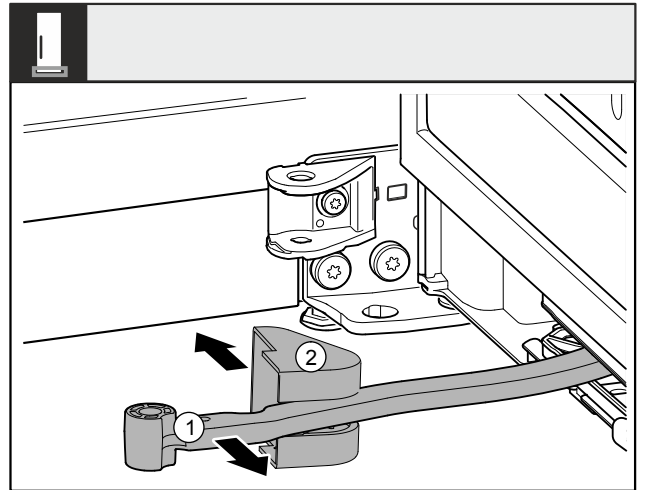

Fig. 10
- ▶ Turn the joint Fig. 10 (1) towards the door.
- ▶ Remove the swap bearing block cover Fig. 10 (2).